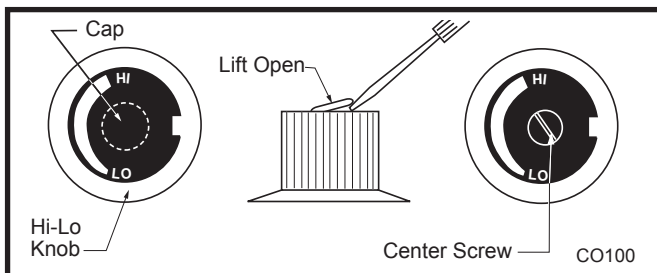

Fig. 58 Remove center screw from Hi-Lo knob.
1. Remove cap from Hi-Lo knob. This can be accomplished by lifting the plastic cap off the screw. (Fig. 58)
2. Remove the screw from center of Hi-Lo knob with small screwdriver turning counterclockwise. (Fig. 58)